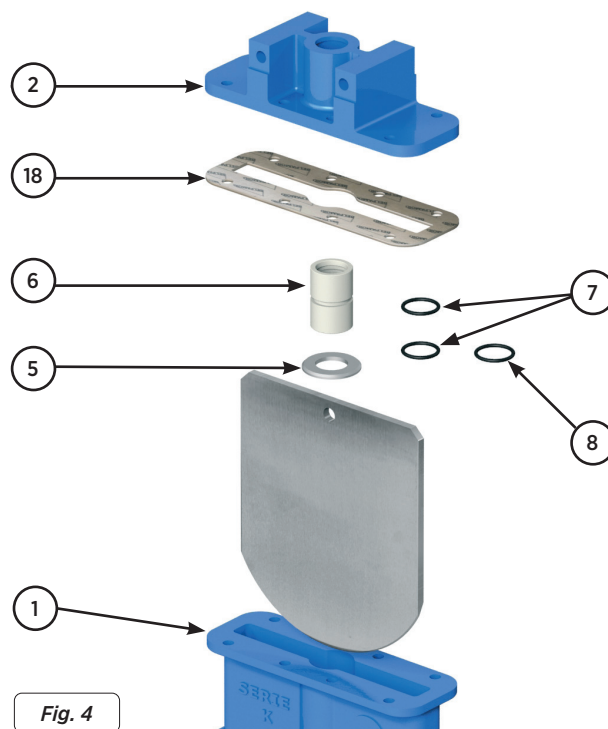

Fig. 4
This packing (Fig.4) achieves watertight integrity by inserting a socket (6) between the body and the rod. This socket (6) is limited at the top (2) by the cover and at the bottom by a washer (5), it also has two internal seals in contact with the rod and another external (8) one in contact with the body (1), to ensure watertight integrity.